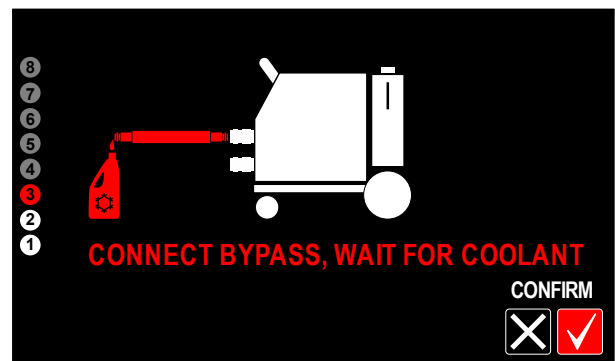

Figure 16
- Connect the short black hose with quick water connectors (BYPASS included with the equipment) to blue outlet socket on front of the power source. Observe the coolant circuit, wait till the coolant starts leak from the BYPASS. For a coolant overflow recommended is to use FREEZCOOL reservoir - (Figure 16).